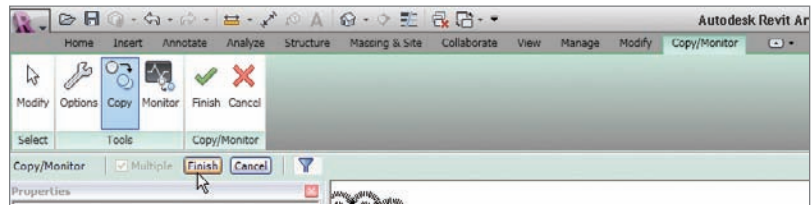

FIGURE 20.7 The Finish button on the Options bar
7. When you are finished, click Finish on the Options bar, as shown in Figure 20.7.